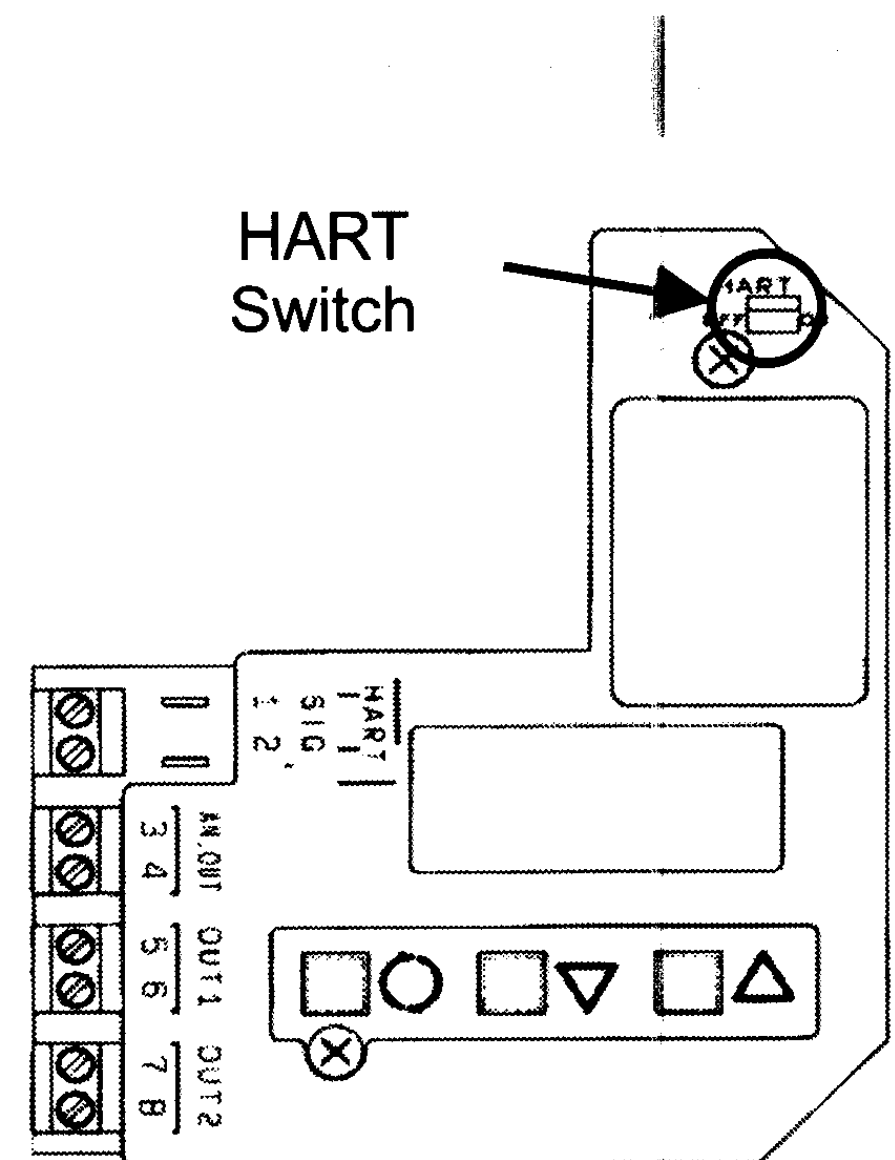

Fig. 5
- *1: Refer fig.5 of “■Switching HART Communication Function” for details.